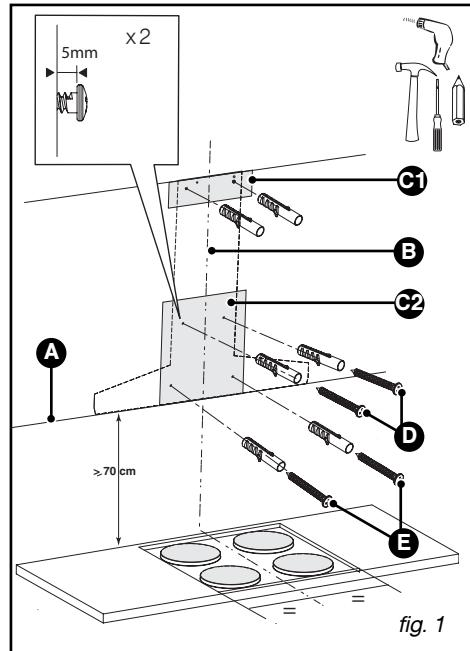

fig. 1
- Cut the drilling template by following the dotted lines to obtain two parts, C1 and C2 (fig. 1).
- Place the C2 template (fig. 1) on the wall, superimposing the line that represents the hood's axis over vertical line B (fig. 1) drawn in a previous step.
- Place the C1 template (fig. 1) against the wall flush with the ceiling.
- Screw in the top two screws for the hood (D/fig. 1), leaving 5 mm sticking out from the wall.